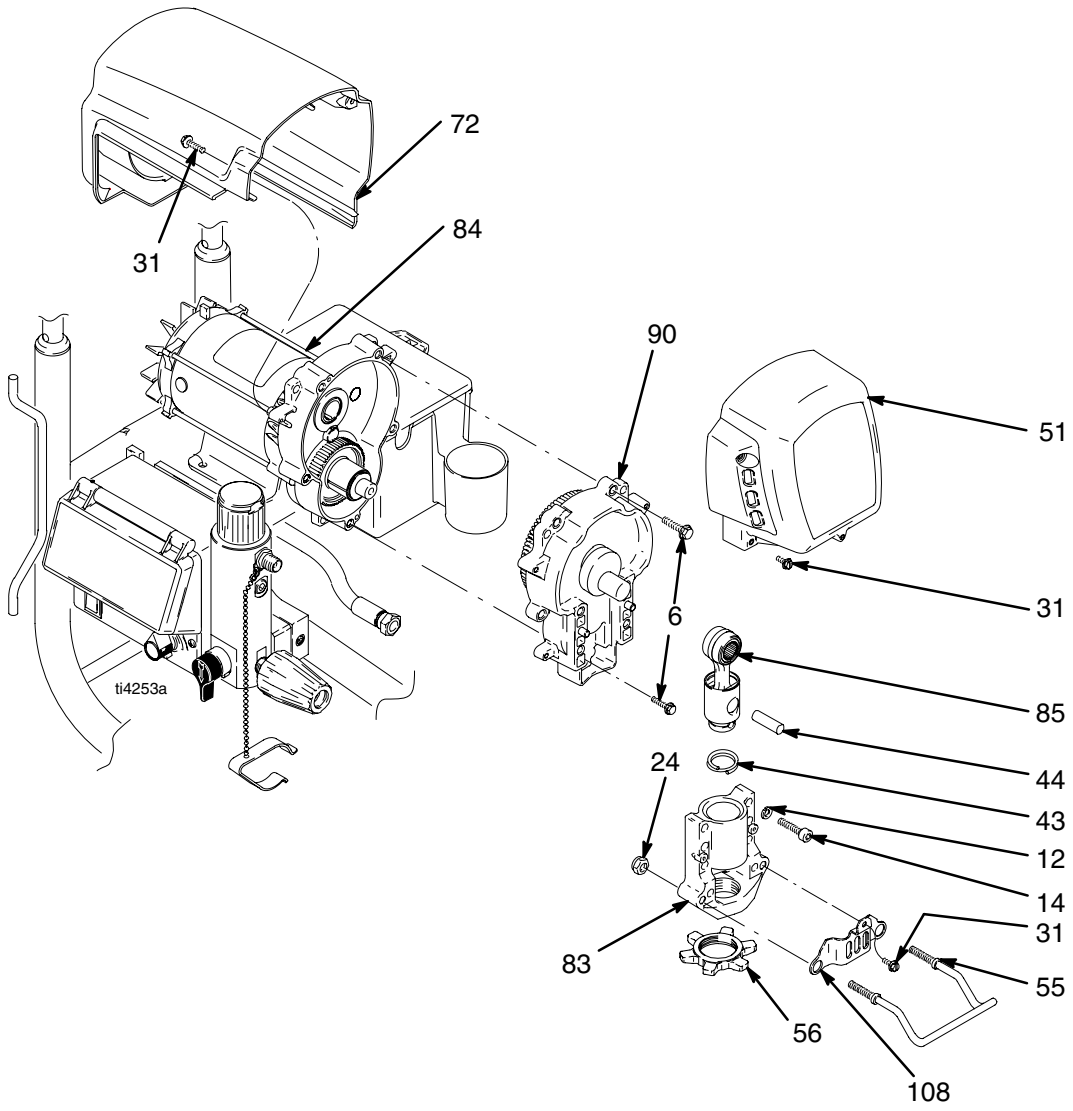

Fig. 4
2. Remove screw (31), two nuts (24), pail hanger (55) and pump rod cover (108).
3. Remove pump (91); **Displacement Pump Replacement**, page 16.
4. Fig. 4. Remove two screws (31) and shroud (72).
5. Remove four screws (31) and front cover (51).
6. Remove four screws (14) and washers (12) to remove bearing housing (83) and connecting rod (85).
7. Remove five screws (6) and pull drive housing (90) off motor (84).
1. Fig. 4. Push drive housing (90) onto motor (84) and install with five screws (6). Torque to 190–210 in-lb (21–23 N·m).
2. Install bearing housing (83) with four screws (14) and washers (12). Torque to 25–30 ft-lb (34–40 N·m).
3. Install front cover (51) with four screws (31).
4. Install shroud (72) with two screws (31).
5. Install pump (41); **Displacement Pump Replacement**, page 16.
6. Install pump rod cover (108) and pail hanger (55) with screw (31) and two nuts (24).